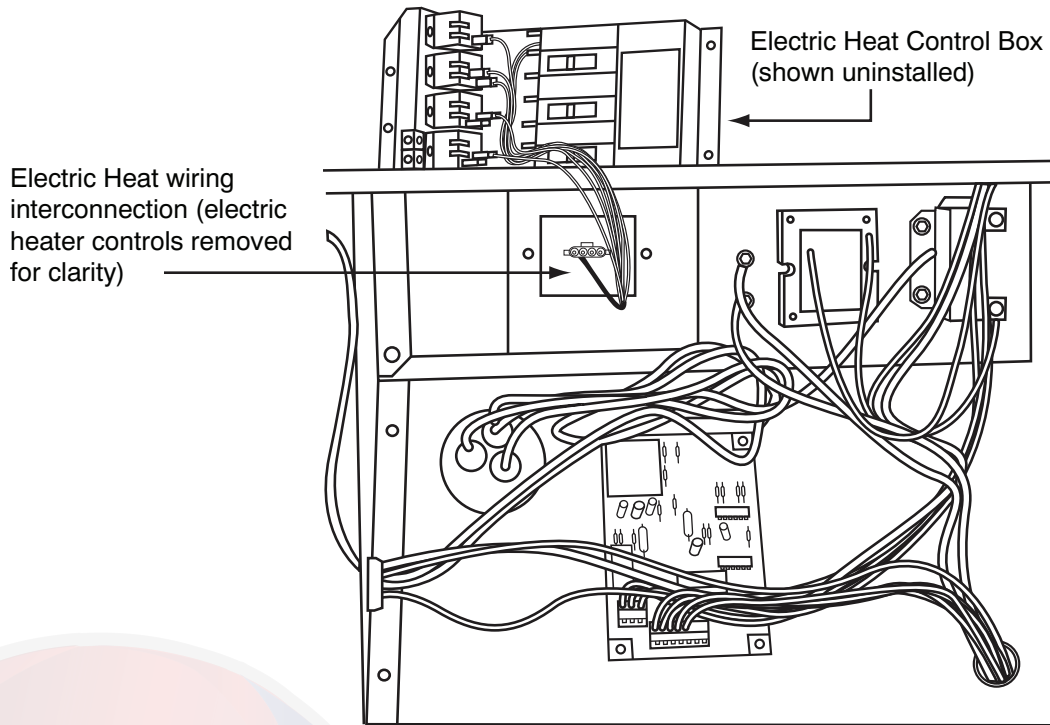

Fig. 5 – Unit Control Box Compartment
- Open heater package and remove heater control panel; set heater control panel on top of unit (See Fig. 5).